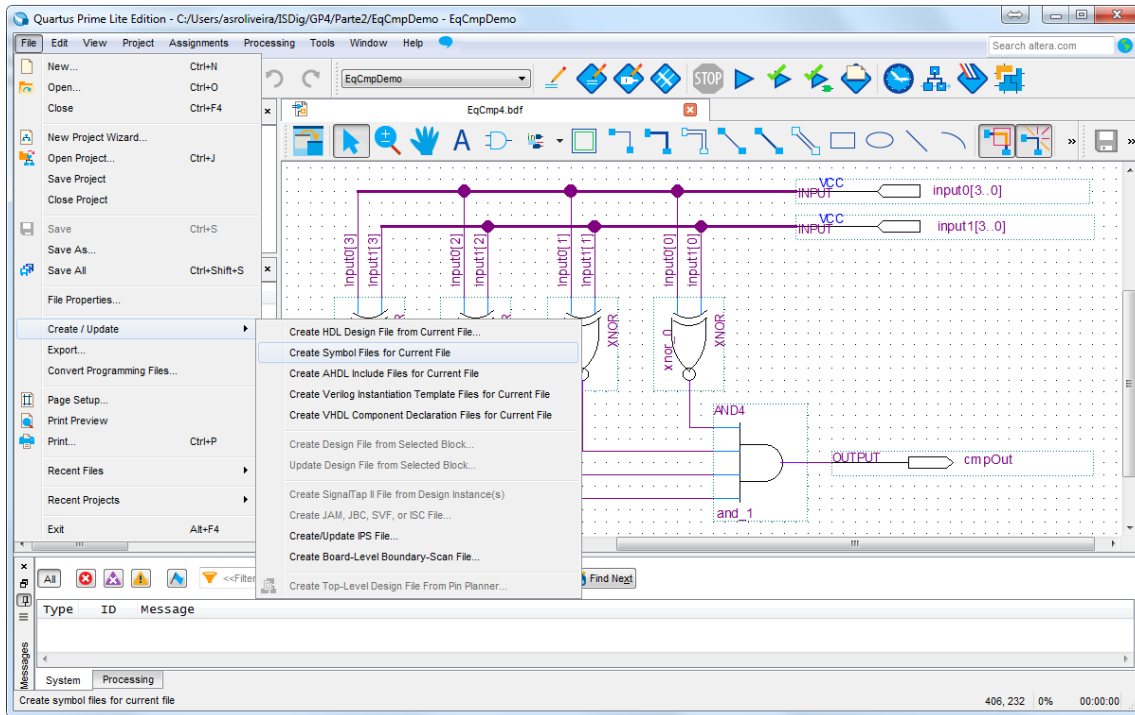
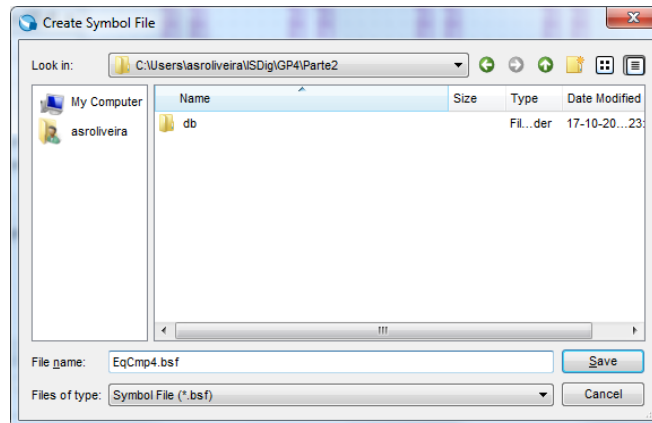

Figure 25 - Creation of a symbol for the “EqCmp4” module.
Figure 26 - Recording of file “EqCmp4.bsff” relative to module symbol “EqCmp4”.
3. Create a symbol for the “EqCmp4” module so that it can be used in a schematic diagram as shown in Figure 25 and write it with the name “EqCmp4.bsf” (Figure 26).